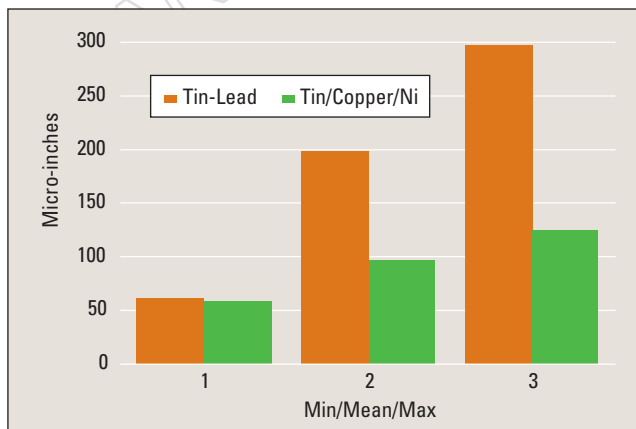

FIGURE 1. Comparison of solder thickness for an SMD feature, with leaded and lead-free solder.
A. LFH has considerably better solder thickness uniformity than TLH. This is more easily observed with the horizontal process than the vertical. Of course, it is also dependent upon the set-up conditions for the machine and the process, but under optimum conditions the results will be better. This can be demonstrated with the following graphs for QFP and BGA pads (FIGURES 1 and 2).